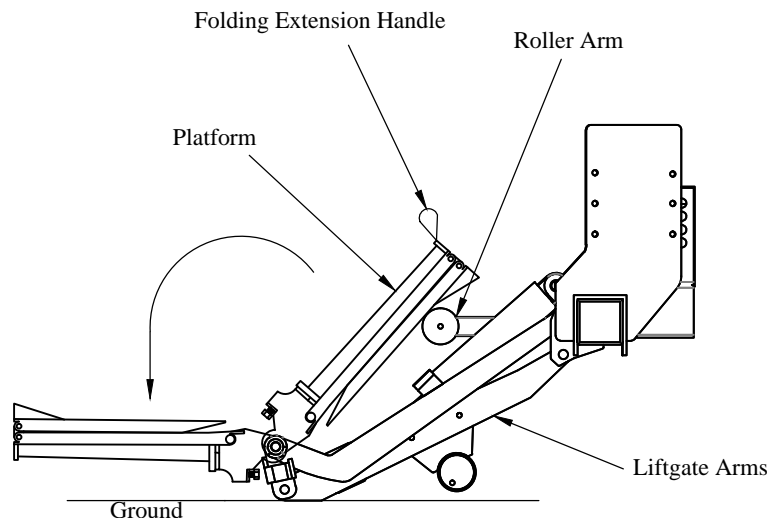

Figure 4: Step 8.
6. With the liftgate arms touching the ground, stand off to the side, and unfold the platform (Figure 4).